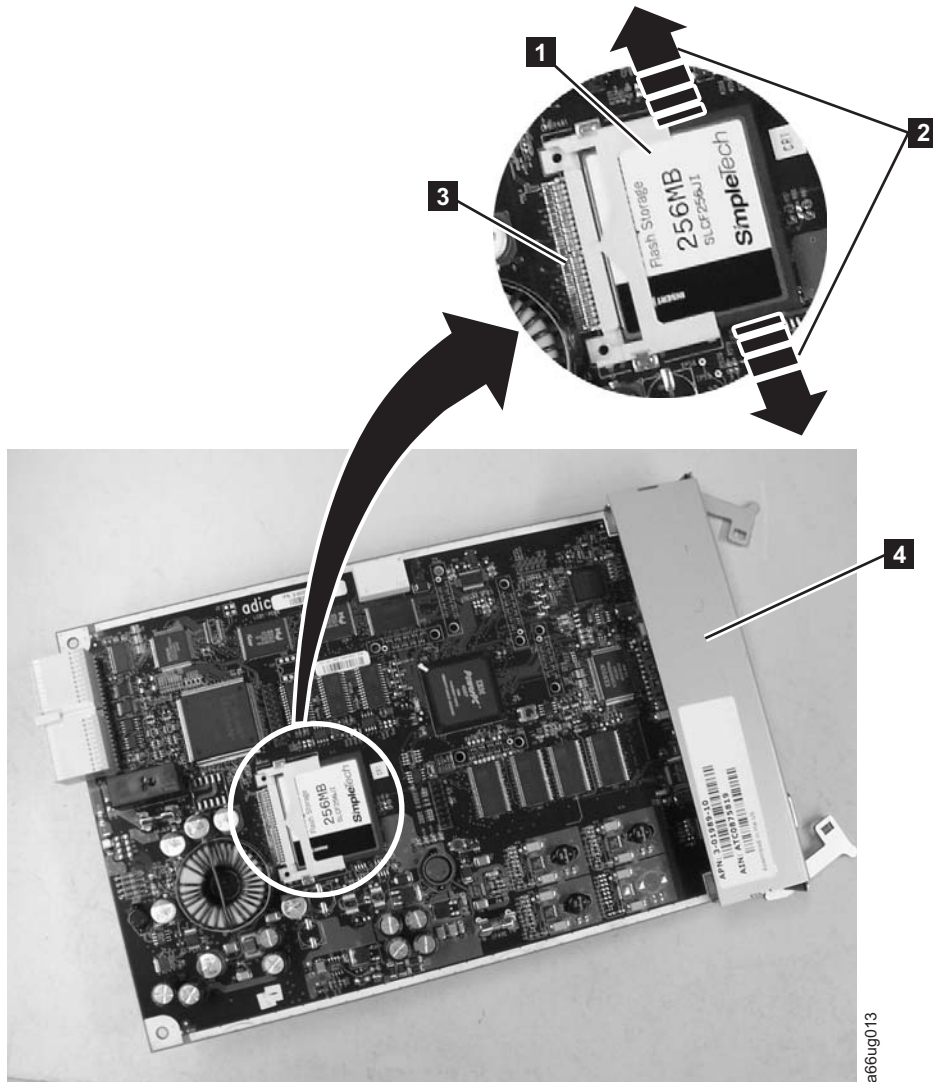

Figure 12-18. Removing the Compact Flash Card from the Library Control Blade
3. Locate the compact flash card component on the LCB board ( **1** in Figure 12-18).
4. Without touching any other components on the LCB firmware board, carefully grasp the compact flash card and wiggle it using a gentle, side-to-side motion ( **2** in Figure 12-18) until the pins on the compact flash card become disconnected from the pins on the LCB board ( **3** in Figure 12-18). Then, slowly slide the compact flash card out of the guide slots.
(See the area enclosed in the white circle in Figure 12-18 on page 12-22 for location).
2. Transfer the compact flash card to the new LCB board with the label up, and pins aligned. Without touching any other components on the LCB board, carefully grasp the compact flash card, and slowly slide it into the guide slots. Continue to push the compact flash card into the guide slots until the pins start to connect. Then hold the LCB board metal connector shield (**4** in Figure 12-18 on page 12-22) with one hand and push the compact flash card into the connector with your other hand. The compact flash card should be firmly seated against the connector (**3** in Figure 12-18 on page 12-22).